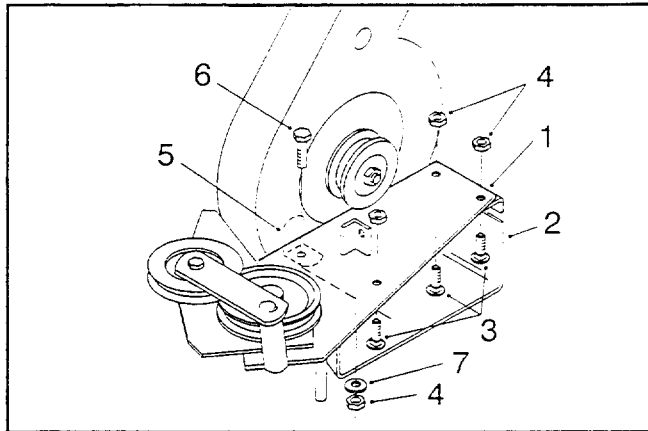

Figure 4
1. Install the blower mounting plate assembly to the blower housing using three $\frac{5}{16}$ " x $\frac{3}{4}$ " carriage-head bolts and $\frac{5}{16}$ " hex-head flange nuts (Fig. 4).
2. Install the L-shaped support bracket inside the blower housing using a $\frac{5}{16}$ " x 1" hex-head bolt, $\frac{5}{16}$ " flat washer and $\frac{5}{16}$ " hex-head flange nut (Fig. 4). Do not tighten the flange nut.
3. Pull the L-shaped support bracket up tight against the inside wall of the blower housing and tighten the flange nut (Fig. 4).